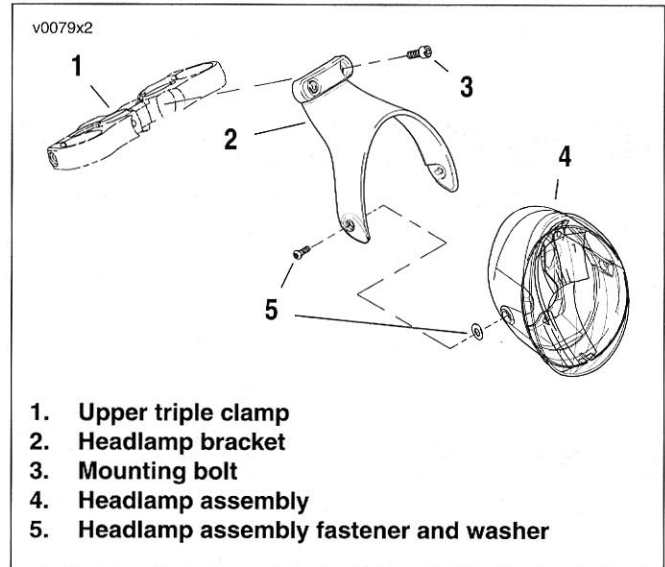

Figure 2-61. Headlamp Bracket and Headlamp Assembly
8. See Figure 2-61. To free lower end of top handlebar cover, loosen mounting bolts (3) holding headlamp bracket (2) to upper triple clamp (1).